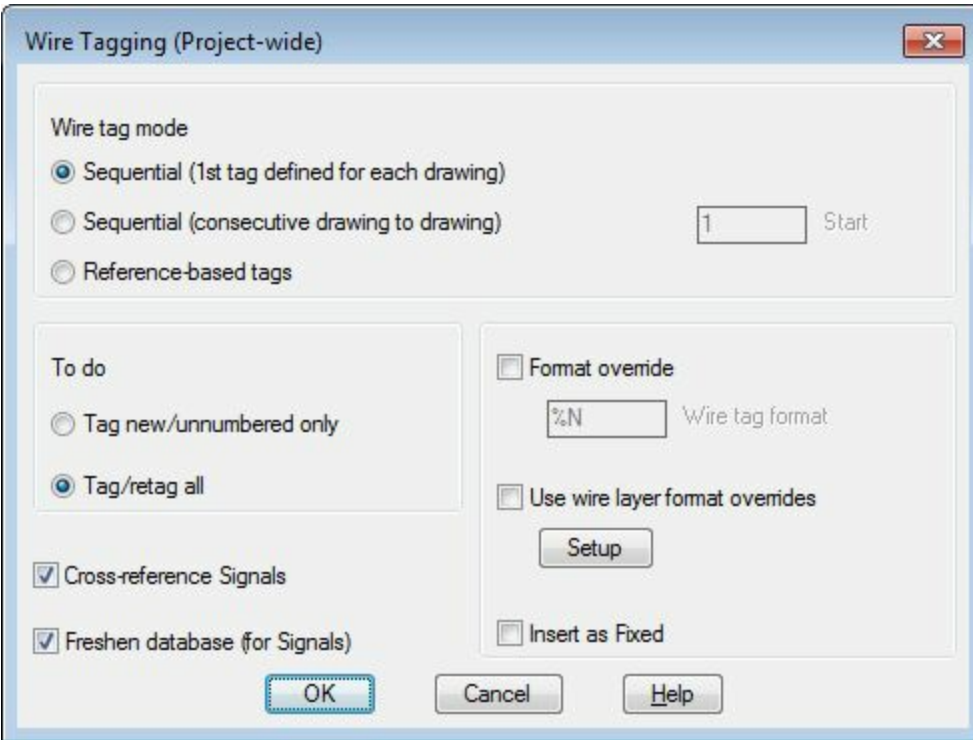

Figure-26. Wire Tagging dialog box
- Click on the **Setup** button to change the settings for wire numbers and signal tags. The **Wire Tagging (Project-Wide)** dialog box will be displayed; refer to Figure-26.